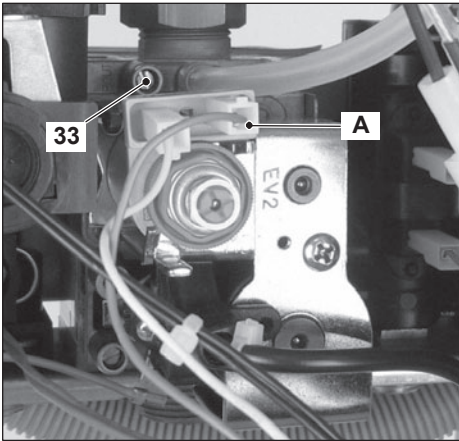

Fig. 7.6
- Loosen the internal screw 33 (Fig. 7.6) on the Outlet Pressure Test Point of the Gas Valve and connect a pressure gauge using a suitable hose.
- Disconnect the gas modulator coil by removing the electrical connector A (Fig. 7.6).
- Open the gas valve outlet pressure test point 33 (Fig. 7.6) and connect the gauge.